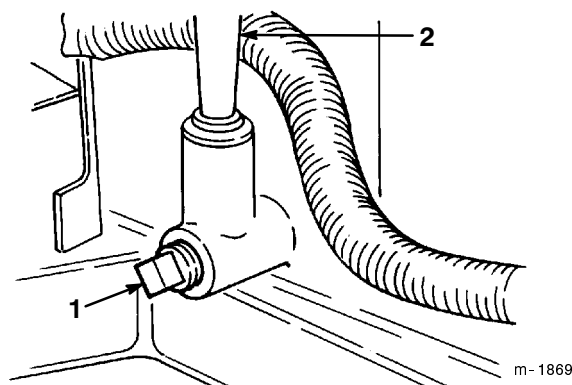

Figure 29
4. Place a pan below the oil dipstick/fill tube and remove the drain plug (Fig. 29).